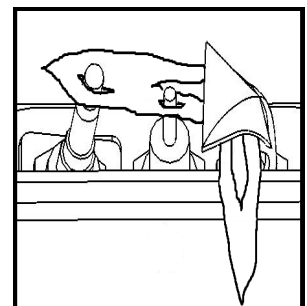

FIG. 2
4. Wait five (5) minutes to clear out any gas. Then smell for gas including near the floor. If you smell gas, STOP! Follow "B" in the safety information above. If you don't smell gas, proceed to step 5.
6. Continuing beeps confirm the ignition is in process. Once lighting the pilot flame should appear as shown in Fig.2. Once the pilot is confirmed, the main burner ignites on high.
For your safety, this appliance is fitted with a flame supervision device which will shut-off the gas supply if, for any reason, the pilot flame goes out. This device incorporates a fixed probe, which senses the heat from the pilot flame. If the probe is cool, the device will prevent any gas flow unless manually lighting the pilot. See full lighting instructions. Periodically check the pilot and burner flames, comparing them to figure 2 on page 32, and the image at the bottom of this page.